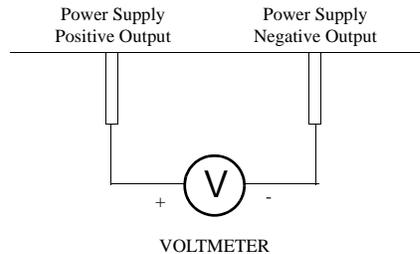
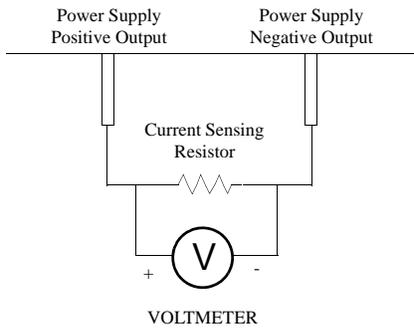

Figure 4.1 Voltage Calibration Setup
Figure 4.2 Current Calibration Setup
5. Connect a digital voltmeter (DVM) for voltage or OVP calibration, or, a current shunt rated for the full output current of the supply and a DVM for current calibration. See Figure 4.1, Voltage Calibration Setup or Figure 4.2, Current Calibration Setup.
1. Connect the unit to the digital voltmeter as shown in Figure 4.1. See also “Calibration Setup” on page 48, step 4.
1. Connect the unit to the digital voltmeter (DVM) as shown in Figure 4.1. (Optional step)
1. Ensure the current shunt has been connected to the power supply as shown in Figure 4.2. See also “Calibration Setup” on page 48, step 4.
1. Ensure the current shunt has been connected to the power supply as shown in Figure 4.2. See also “Current Calibration Setup” on page 51, step 4. Connecting a DVM is optional.
1. Connect the unit as for voltage mode calibration. See Figure 4.1. See “Calibration Setup” on page 48, step 4. (Optional step.)